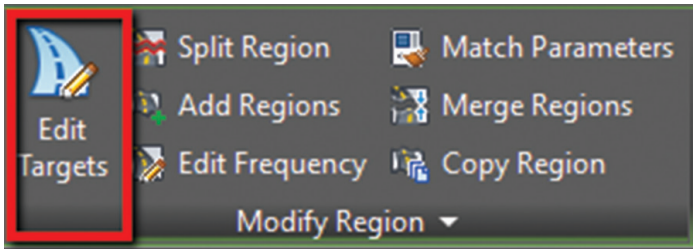

Figure 7
12. From the contextual ribbon for said corridor, select EDIT TARGETS from the Modify Region panel (see Figure 7).